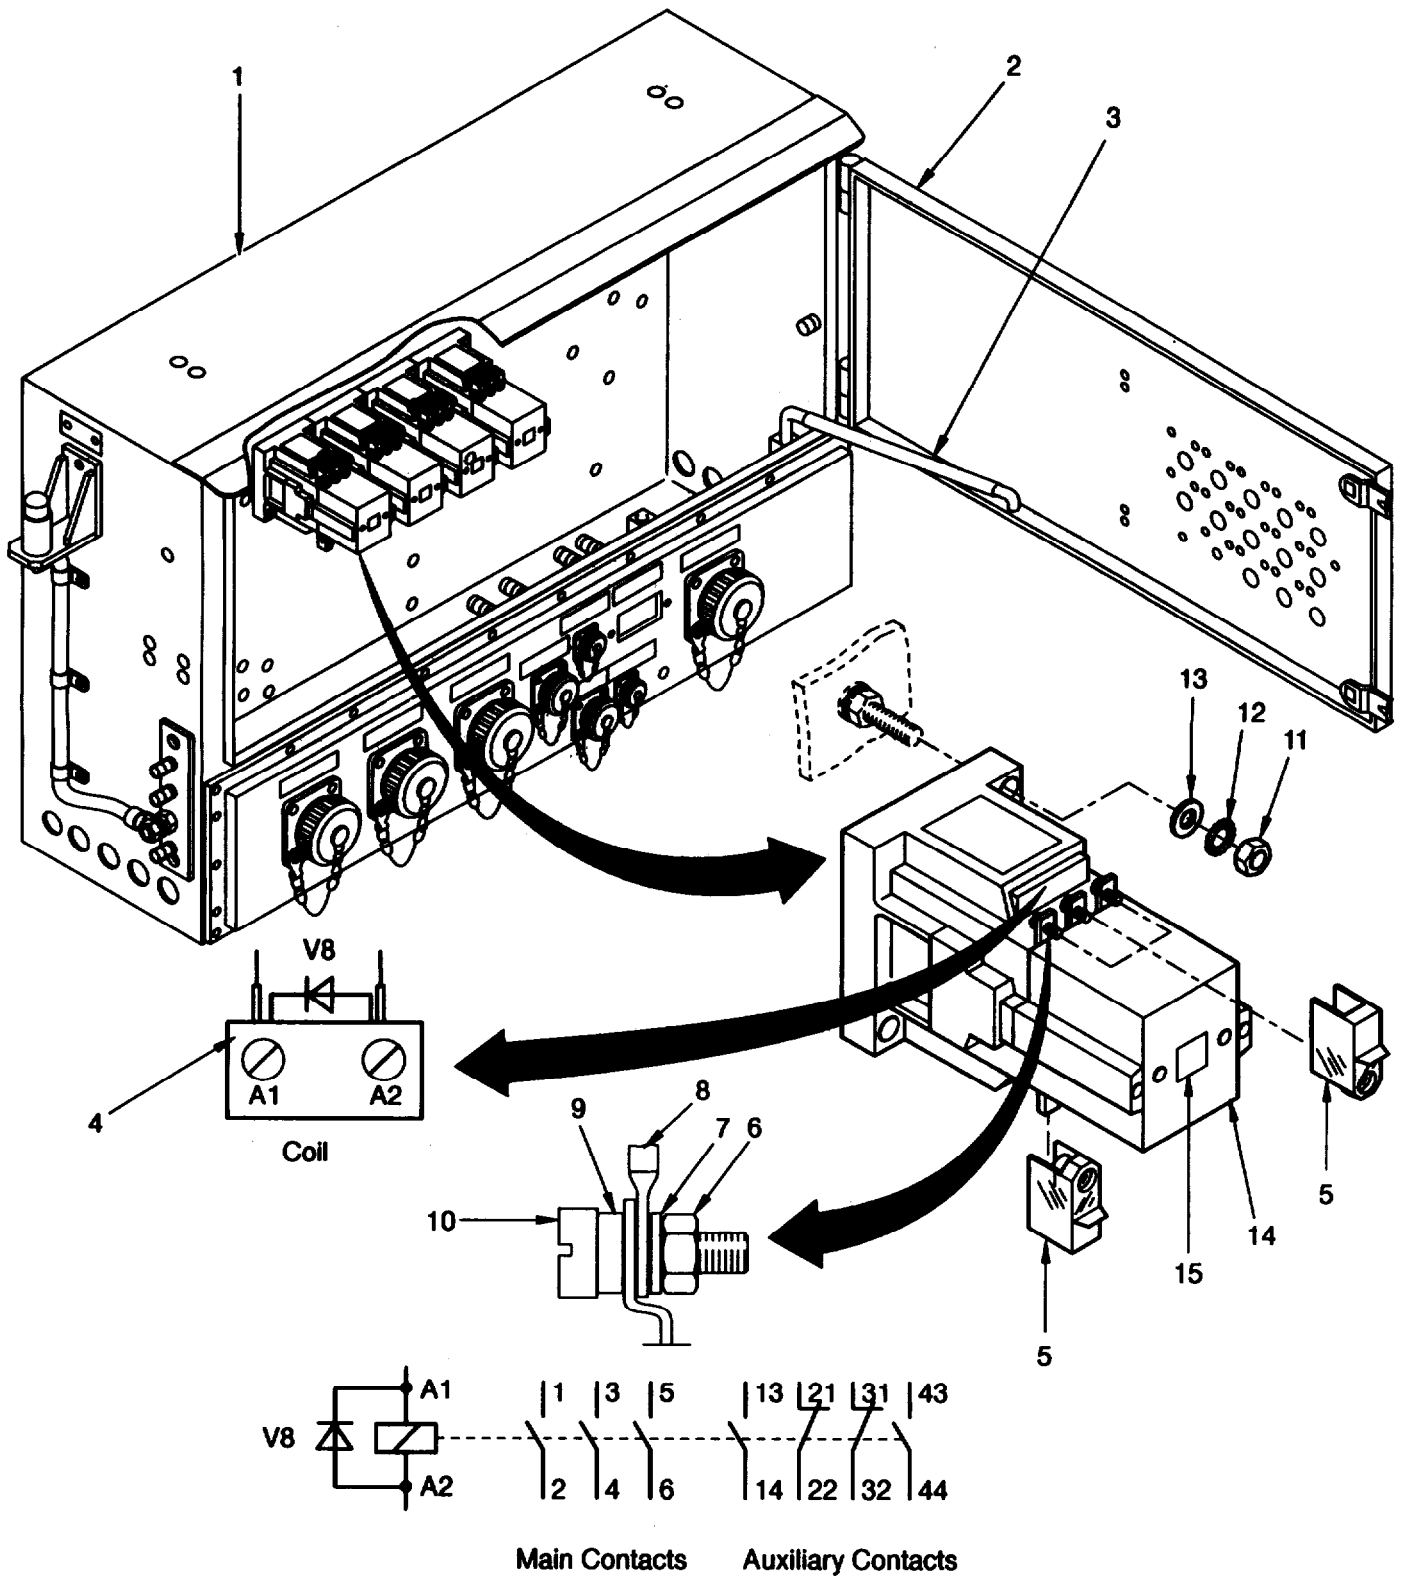

Figure 5-11 Contactor Assemblies.
- a. Remove stanchion by PDU (1, figure 5-11).
- b. Open access door (2) and secure with prop (3).
- d. Remove six protective caps (5) with a short turn of each cap screw closure.
- e. Remove nut (6), serrated lock washers (7), cables (8), washers (9) and screws (10).
- f. Record labeling and position of cables and remove cables from all terminals of contactor K3 (14).
- g. Remove two nuts (11), serrated lockwashers (12), washers (13), and contactor K3 (14).